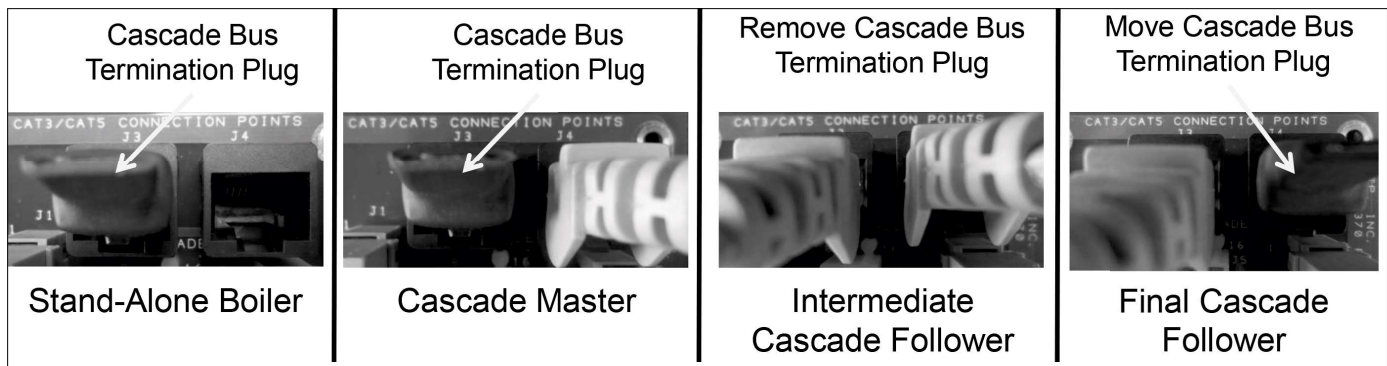

Figure 40 - Cascade Termination Plug Detail
1. A termination plug is included in the CAT 3 / CAT 5 Bus Connection Point, labeled J6 in Figure 40. The purpose of this plug is to stabilize communication between multiple VWHs and reduce electrical "noise". See Figure 40 for Cascade Bus Termination Plug installation detail. **DO NOT REMOVE THIS PLUG!** Doing so will affect VWH operation and void warranty.
NOTE: It is important that the termination plug in multiple VWHs (cascaded units) be installed as depicted in Figure 40. Leave the plug installed in the J6 port on the Master VWH. Remove the plug on intermediate Follower VWHs. Move the plug to the J7 port on the final Follower VWH.
NOTE: All termination plugs must be installed as described in Figure 40 to ensure proper cascade operation.